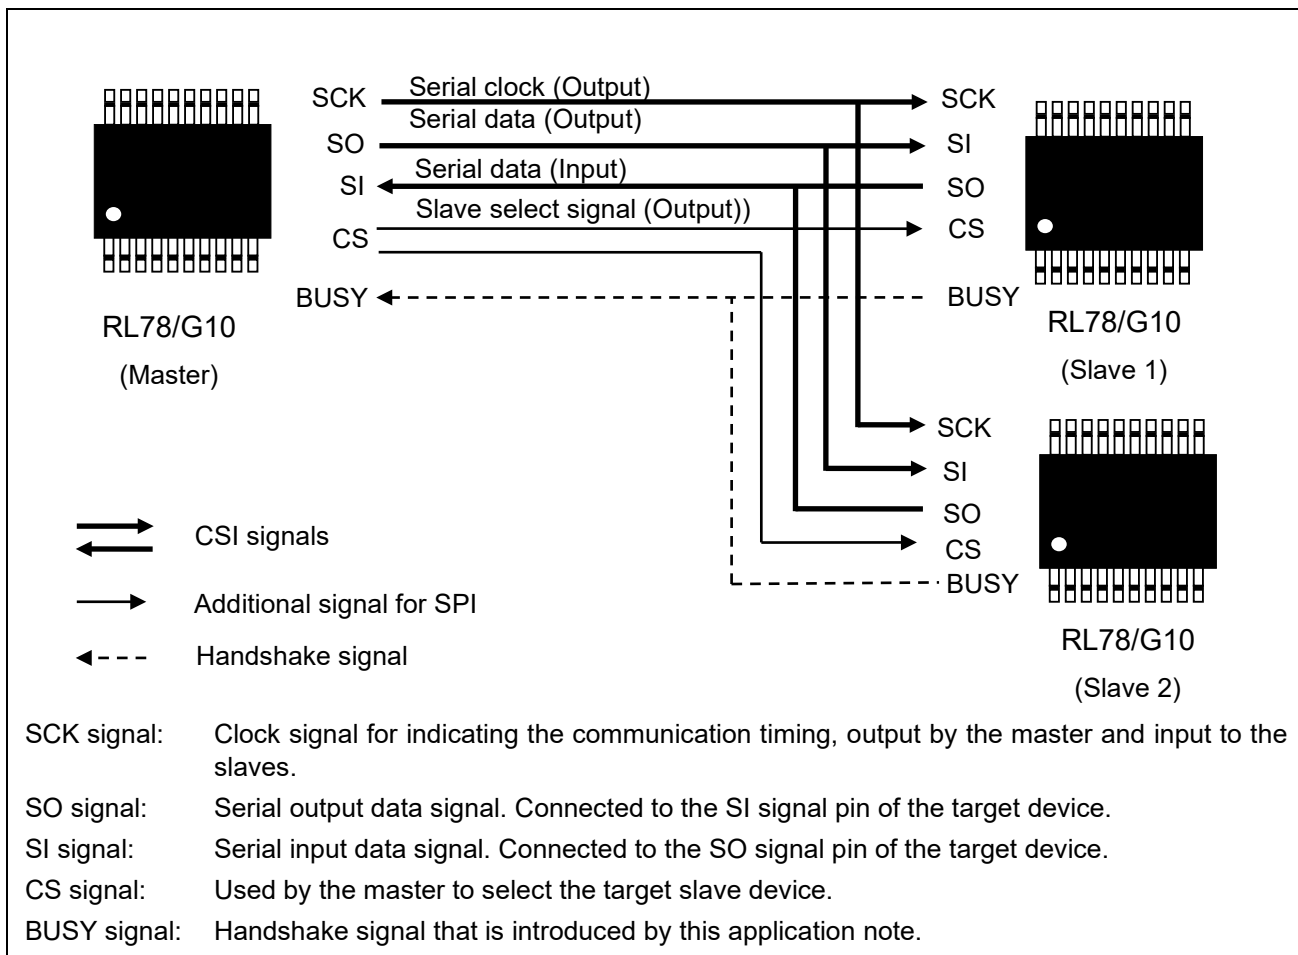

Figure 1.1 Outline of CSI Communication
CSI is a protocol for clock synchronous serial communication using three signal lines, namely, serial clock (SCK), serial input data (SI), and serial output data (SO). SPI (Serial Peripheral Interface) uses an additional signal, CS (Chip Select), which is used to select the slave device. The relationship among these signals is shown in figure 1.1.